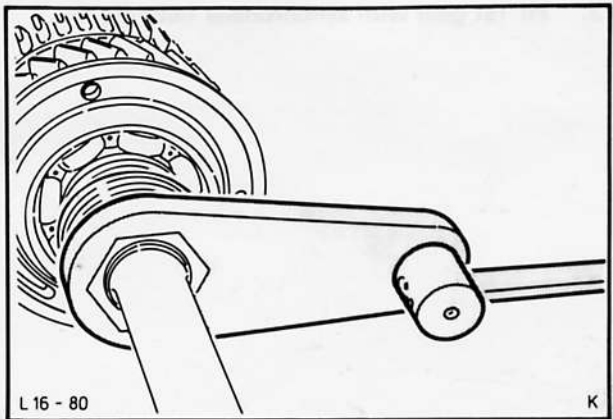

Fig. 86. Torque nut to specified value with Special Tool No. 16-027
28. Insert lock washer with tabs in recess in speedometer worm gear. Tighten mainshaft nut to specified torque with Special Tool No. 16-027 and lock, Fig. 86.